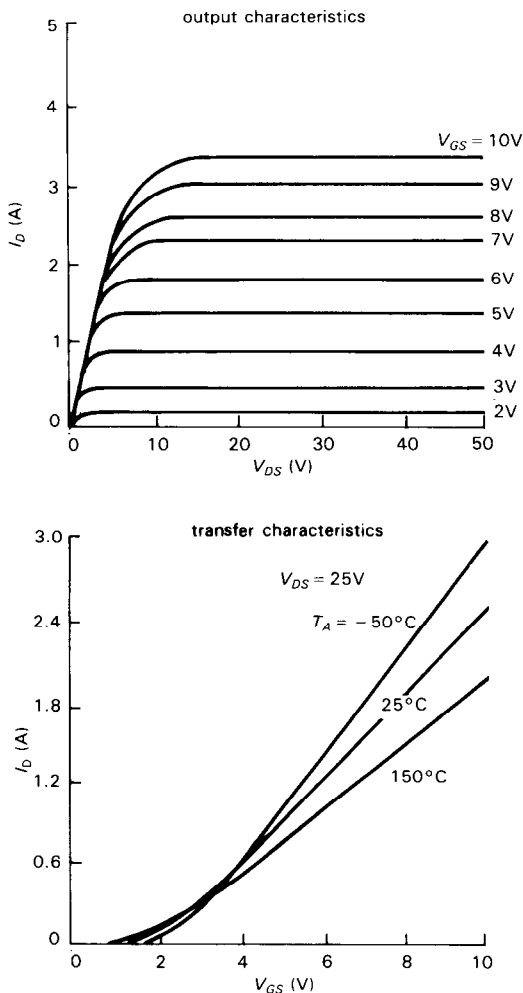

Figure 3.68. Drain characteristics of an n -channel low-threshold MOSFET (type TN0104).
1.5 volts (max),” which sounds fine until you read the fine print (“at $I_D = 1\text{mA}$ ”). It takes considerably more gate voltage than $V_{GS(th)}$ to turn the MOSFET on fully (Fig. 3.68). However, the circuit will probably work OK, because (a) a HIGH TTL output is rarely less than +3 volts, and typically more like +3.5 volts, and (b) the TN01 further specifies “ $R_{ON}(typ) = 5\Omega$ at $V_{GS} = 3\text{V}$.”